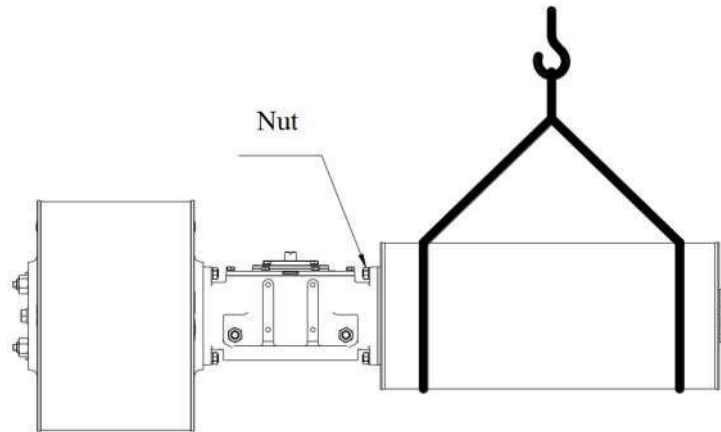

Figure 8
- 7) Take the necessary lifting measures for the spring module, refer to Figure 8.
the drive module (as shown in Figure 8), and tighten the nut;